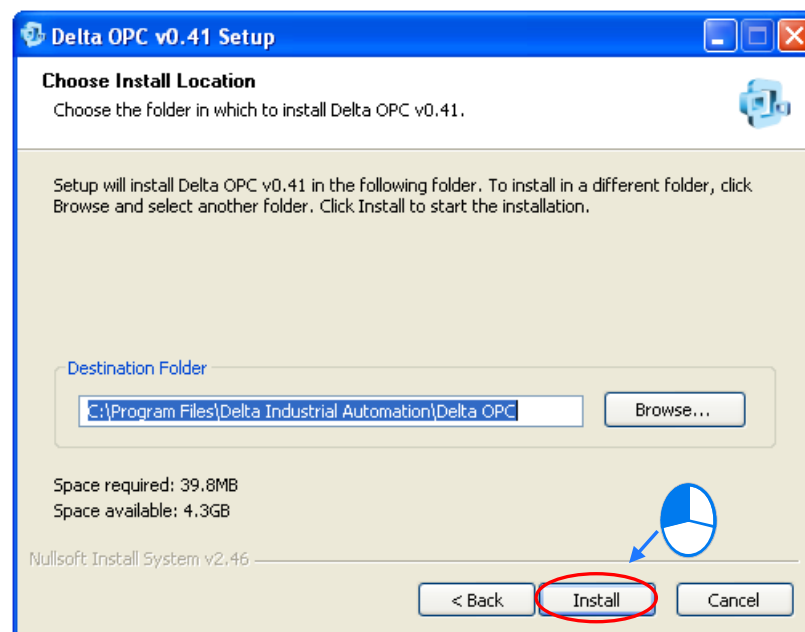
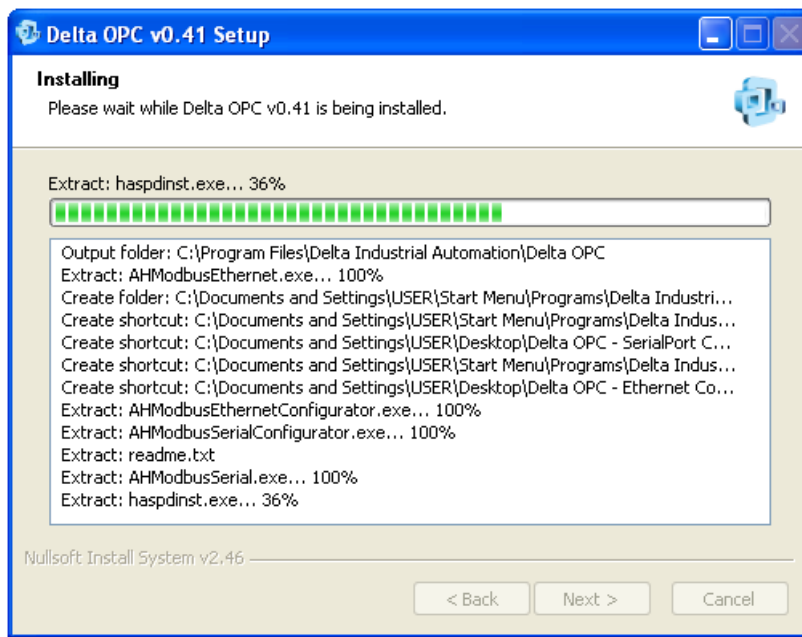

Figure 1-4 Installation path
Figure 1-5 Process of installing Delta OPC
- (4) After the users select a folder in which Delta OPC will be installed, or accept the default installation path, they have to click **Install**, as shown in figure 1-4. The process of installing Delta OPC is as shown in figure 1-5.